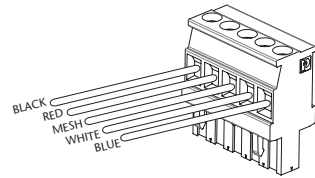

fig. 5
2. Connect each wire of the CAN-Bus cable to the provided 5 pole male plug (951 880) (fig. 5).